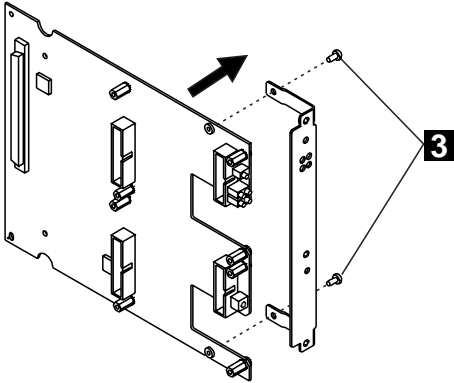

Figure 8. Removing the Dummy Faceplate Bracket
- 4 Remove the dummy faceplate bracket from the motherboard ( **3** in Figure 8 on page 22), retaining the screws for the new bracket. Save the dummy bracket in a safe place for future reuse.